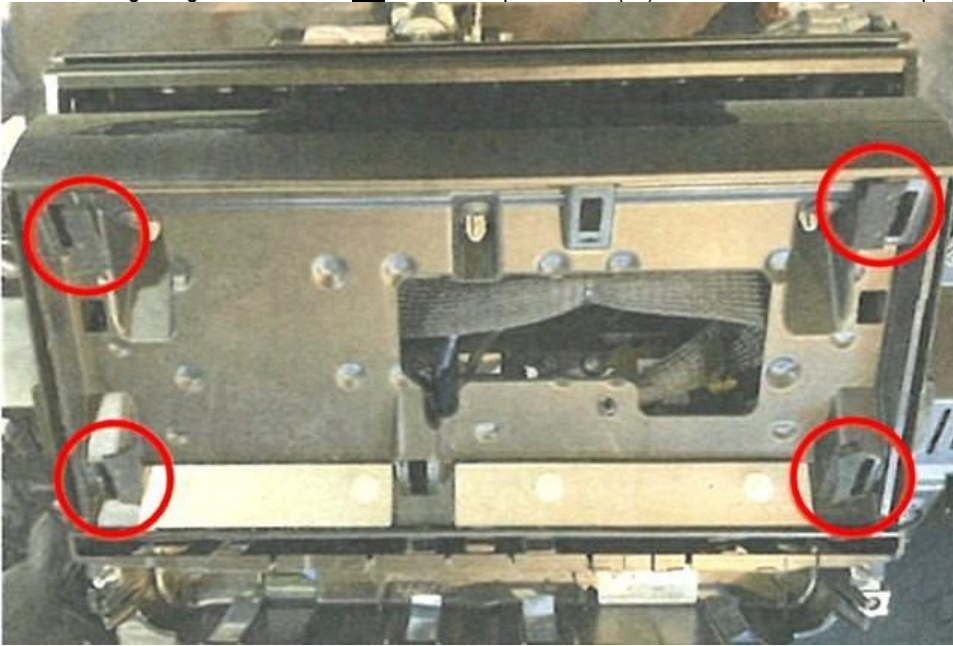

Figure 3
- Referring to Figure 3 - Remove All anti creak tape from the (x4) locations shown for the Display clocks and dials fascia and Veneer fascia)